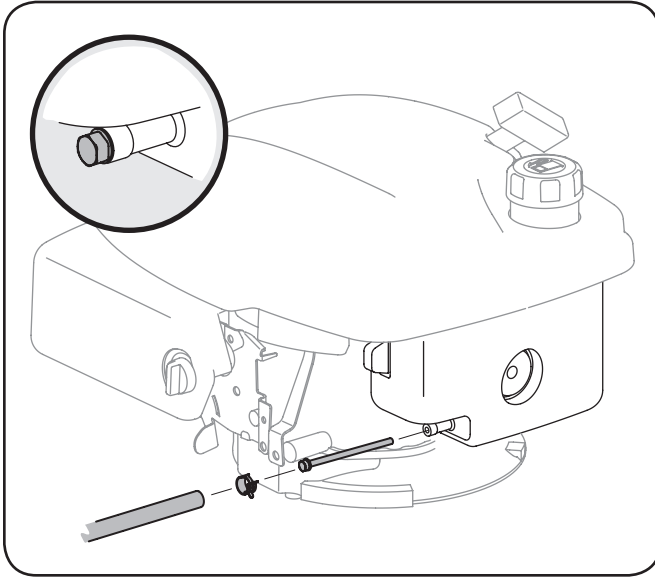

Figure 10-5
2. Remove c-clamp from fuel line and remove fuel line from tank outlet. See Fig. 10-5.
4. Grasp new fuel filter from shouldered end and insert it completely to the shoulder into the tank outlet. See Fig. 10-5 inset.